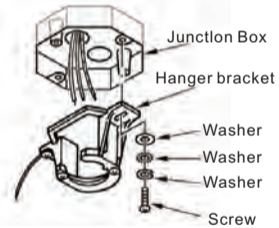

Fig.14
Step 8: Secure the hanger bracket to the ceiling outlet box using screws included with your outlet box and washers included with the fan.(Fig.14)